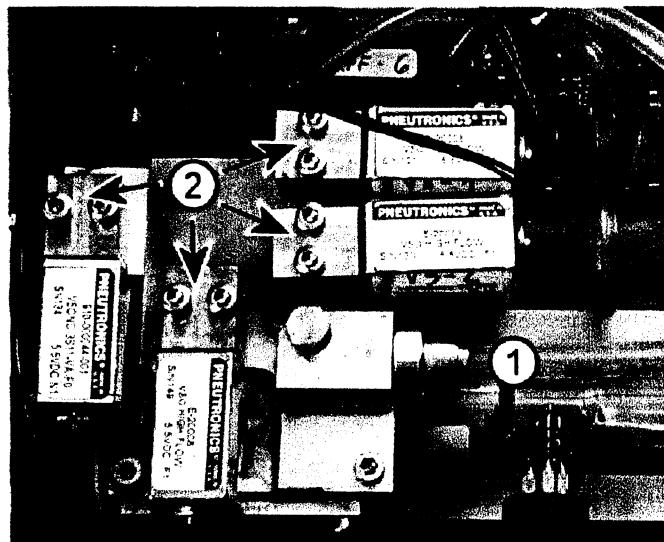

Fig. 11 Valves on the metering block
4. Remove the tube Fig. 11/1 from the metering block.
5. Remove the fixing screws of valves V1 to V3 Fig. 11/2.